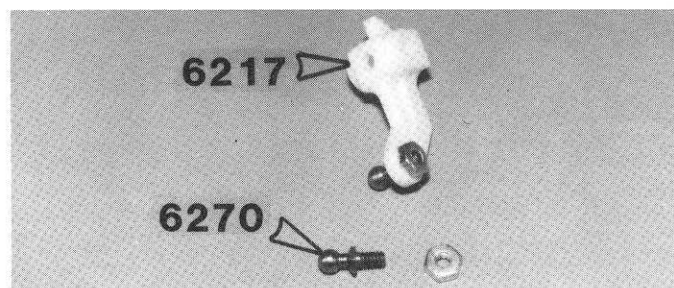

Fig. 10
□ **Fig. 10** Screw the short ball end #6270 into the #6217 steering block and secure it with the nut as shown. Assemble the right hand side, which will be inserted into the opposite side shown in fig. 10.